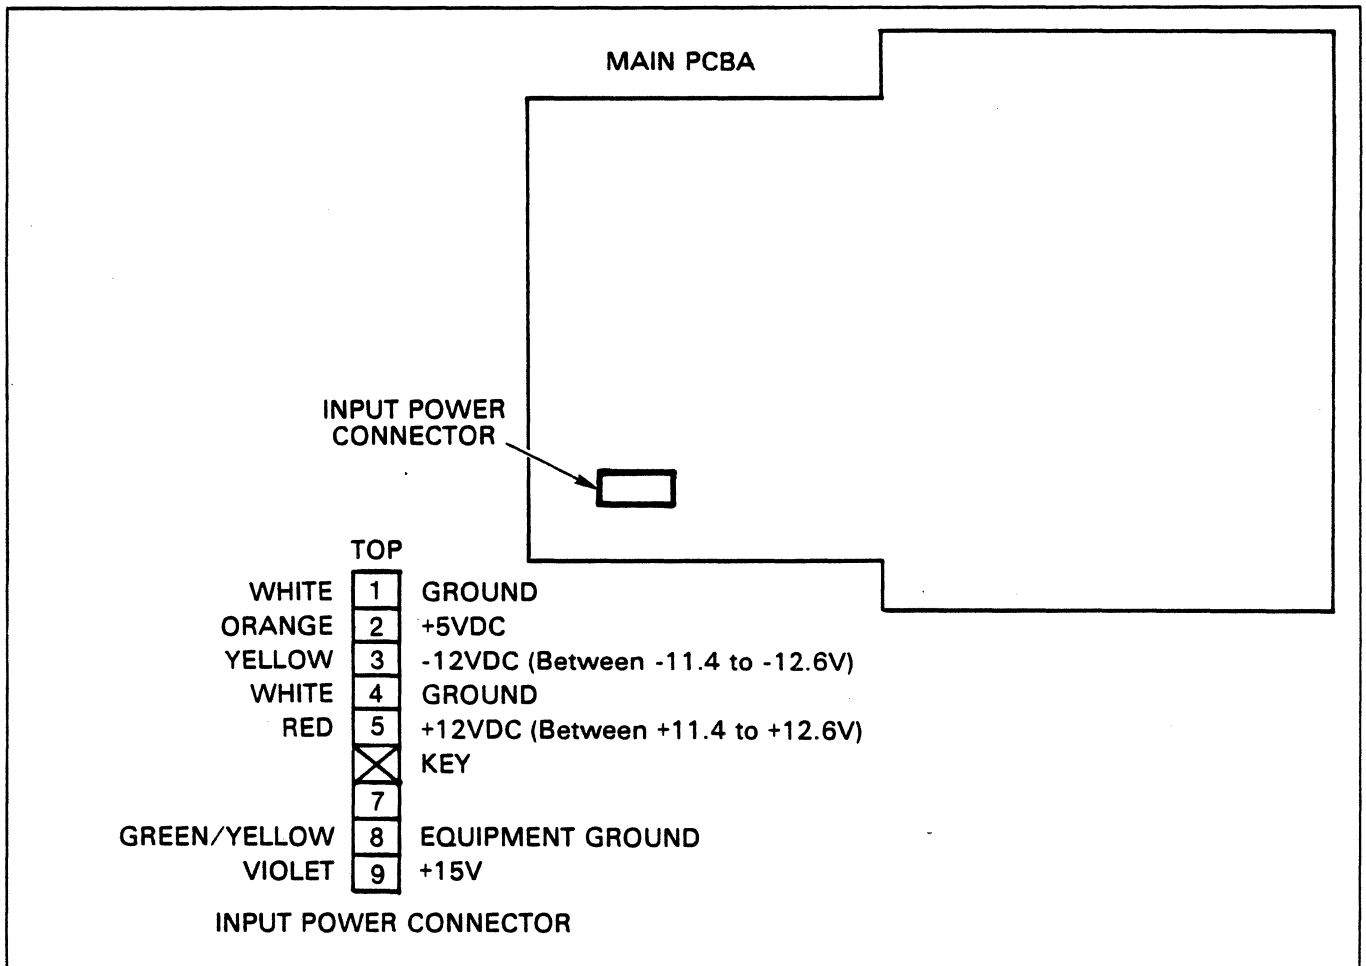

Figure 5-3. Power Supply Adjustments
2. Refer to figure 5-3 and check voltage
4. Refer to figure 5-3 and check for the indicated voltage tolerances on the input power connector.